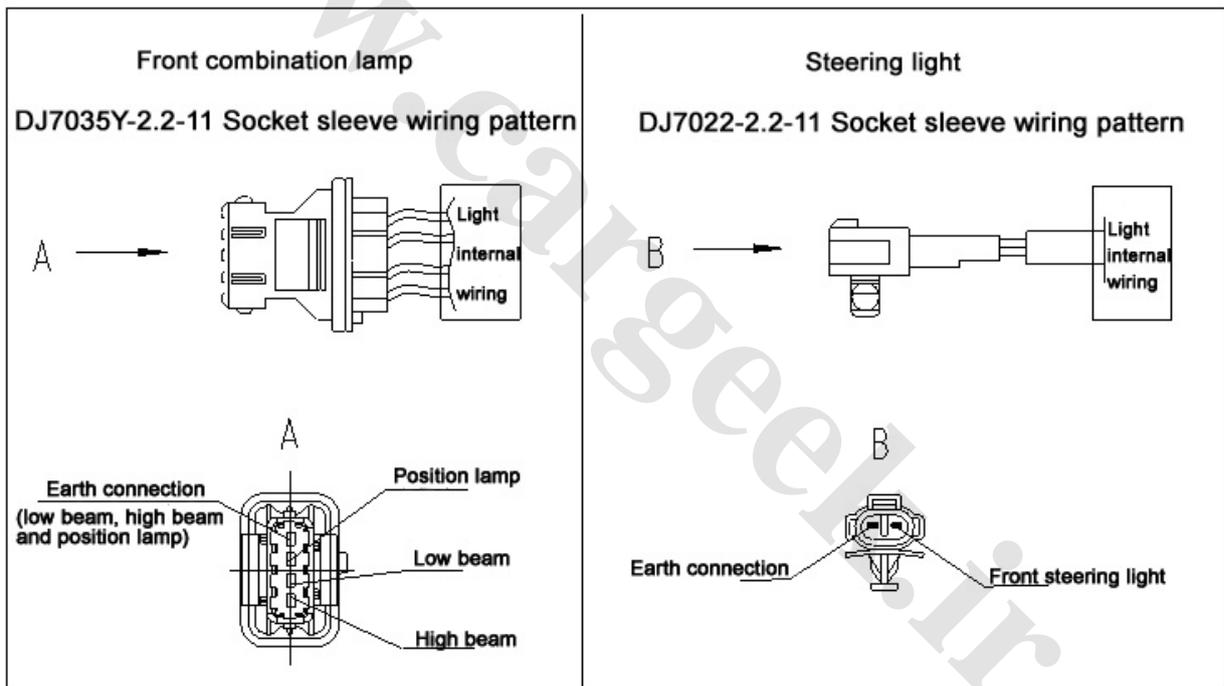

Fig. 4-61
1.1 Front combination lamp interface (Fig. 4-61)